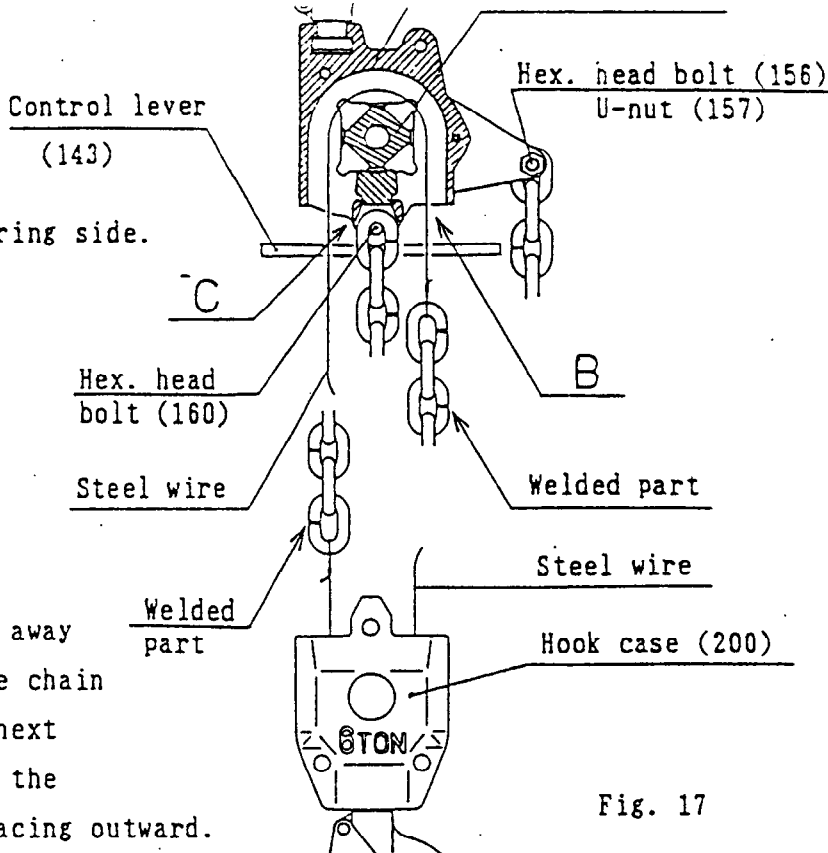

Fig. 17
■ 6 Ton Model (Fig. 17)
- ① Install the end kink of the link chain to the steel wire B on the lowering side.
- ② Pull the link chain into the casing by pulling the steel wire. The first link is pulled across the longitudinal direction of the hoist. (Vertical link)